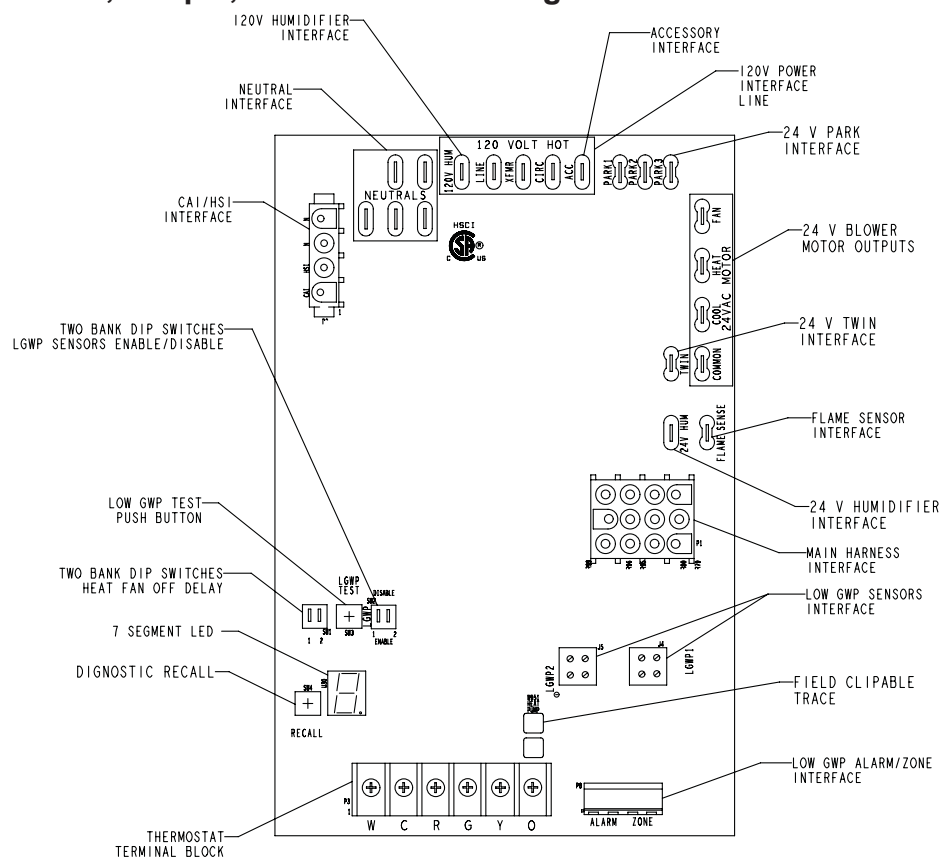

Figure 6.
One line voltage “**ACC**” 1/4” spade terminal is provided on the furnace integrated control. See **Figure 6** for integrated control configuration. This terminal is energized when the indoor blower is operating. Any accessory rated up to one amp can be connected to this terminal with the neutral leg of the circuit being connected to one of the provided neutral terminals. If an accessory rated at greater than one amp is connected to this terminal, it is necessary to use an external relay.
One line voltage “**HUM**” 1/4” spade terminal is provided on the furnace integrated control. See **Figure 6** for integrated control configuration. This terminal is energized in the heating mode when the combustion air inducer is operating. Any humidifier rated up to one amp can be connected to this terminal with the neutral leg of the circuit being connected to one of the provided neutral terminals. If a humidifier rated at greater than one amp is connected to this terminal, it is necessary to use an external relay.
One 24V “**H**” 1/4” spade terminal is provided on the furnace integrated control. See **Figure 6** for integrated control configuration. The terminal is energized in the heating mode when the combustion air inducer is operating and the pressure switch is closed. Any humidifier rated up to 0.5 amp can be connected to this terminal with the ground leg of the circuit connected to ground or the “**C**” terminal.
The hot surface ignition control system consisting of an integrated control (**Figure 6** with control terminal designations in **Table 1**, **Table 2**, **Table 3**), sensor and ignitor (**Figure 7**). The integrated control and ignitor work in combination to ensure furnace ignition and ignitor durability. The integrated control, controls all major furnace operations. The integrated control also features a **RED LED** for troubleshooting and two accessory terminals rated at (1) one amp. See **Table 6**. for troubleshooting diagnostic codes. The nitride ignitor is made from a non-porous, high strength proprietary ceramic material that provides long life and trouble free maintenance.